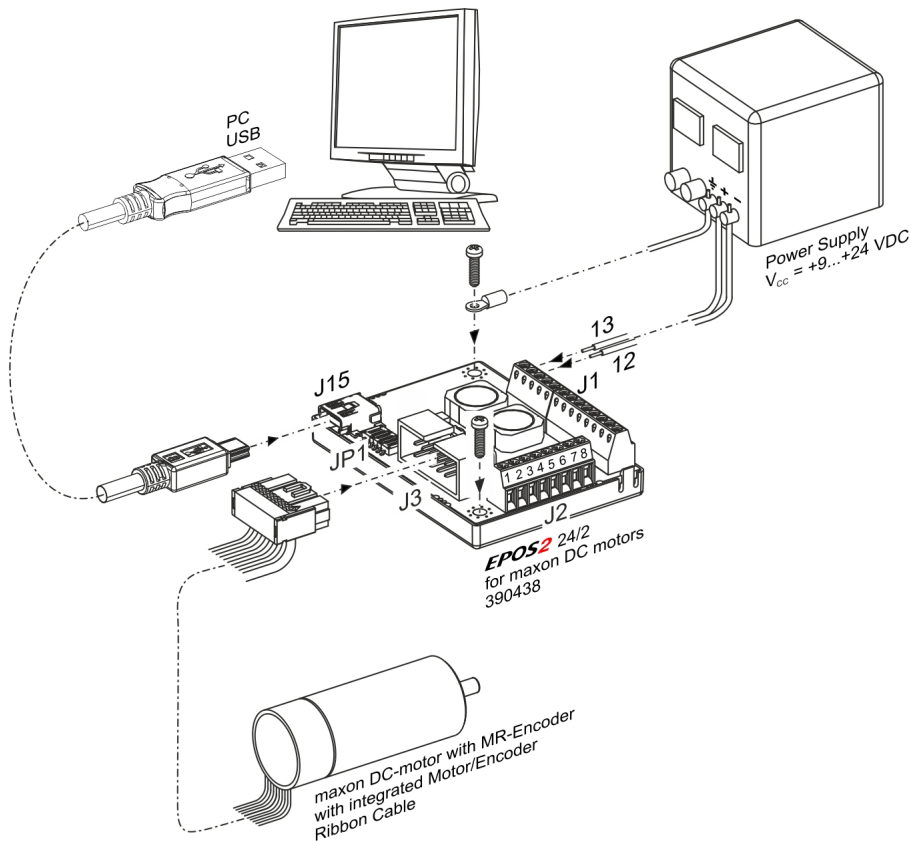

Figure 3-2 Minimum Wiring: maxon DC motor (integrated Motor/Encoder Ribbon Cable)
- 2) Connect maxon cable assemblies (→ Table 3-5 and Figure 3-2).